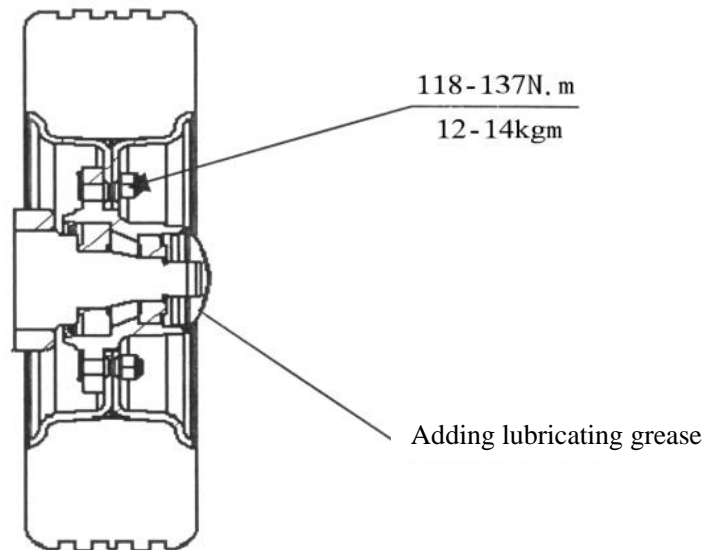

Fig. 3-3 Fill lubricating grease and pre-load adjustment
(1) As shown in Fig. 3-3, fill up the chamber formed by wheel hubs, wheel hub bearings and wheel hub covers with lubricating grease. Coat the lips of the oil seals with lubricating grease.
(2) Press the hub bearing into the hub and fit the hub on the knuckle shaft.
(3) Fit a flat washer and tighten a castle nut to a torque of 206-235Nm (21-24kgm) and loosen it, and then tighten it again to a torque of 9.8Nm (1kgm).
(4) To ensure firm installation of the hub, slightly knock at it with a wooden hammer and in the meantime, rotate the hub for 3-4turns.
(5) Tighten the castle nut and align one of its notches with a cotter pin hole drilled in the steering knuckle.
(6) Again slightly knock at the hub with a wooden hammer and in this time, rotate